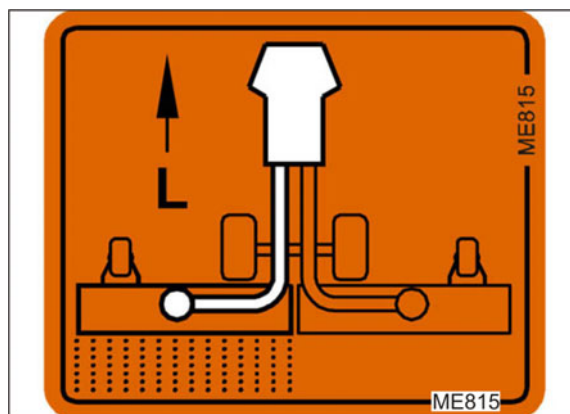

Fig. 215
3. Throw the lever to the right (Fig. 215/1) and lock it: